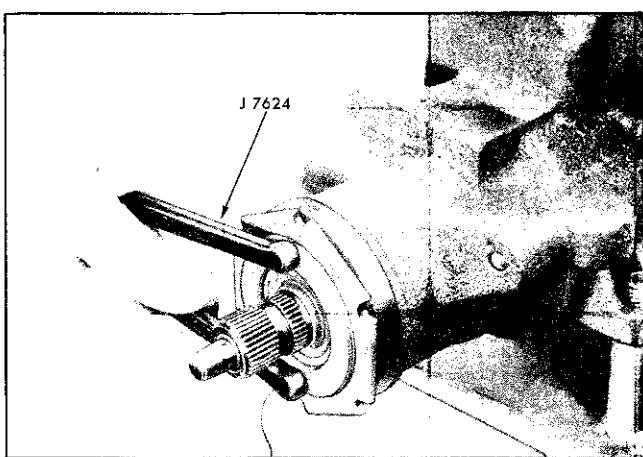

Fig. 9-51 Removing Adjuster Plug Assembly
NOTE: If reading for "a" is not in specification, correct thrust bearing preload as follows: Loosen adjuster plug lock nut, using a drift or similar tool, and move flexible coupling (by turning steering wheel) as necessary to permit installation of tool J 7624 on adjuster plug (Fig. 9-51). Tighten plug to obtain proper bearing preload and retighten adjuster plug lock nut.
3. Remove adjuster plug assembly, using a spanner as shown in Fig. 9-51.